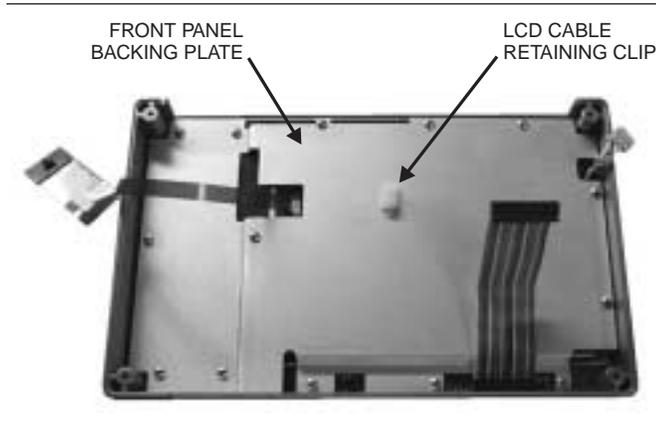

Figure 15. Front Panel Backing Plate
4. Release the LCD display cable from the retaining clip on the front panel backing plate (Figure 15).